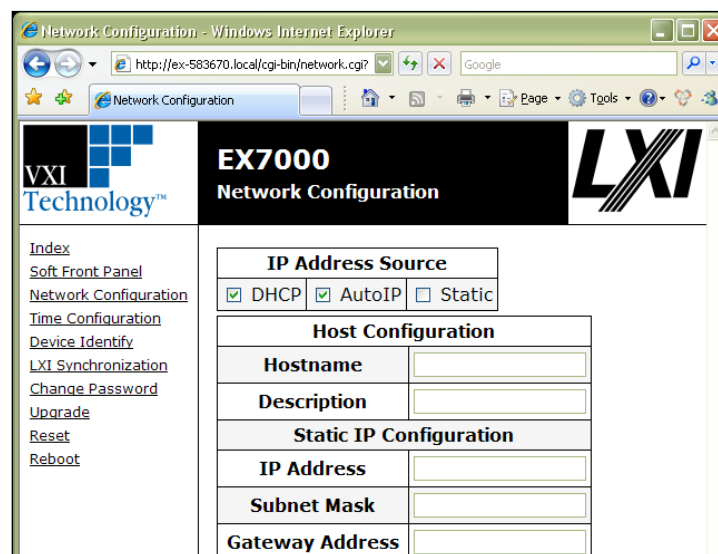

FIGURE 2-5: EX7000 SET TO USE AUTO IP
- 5) Select **DHCP** and **AutoIP** in the **IP Address Source** field and ensure that **Static IP** is not selected. Figure 2-5 shows the proper configuration. Click the **Submit** button to save all changes.